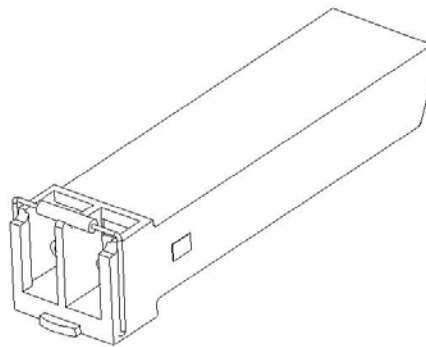

Figure 13 Gigabit SFP Optical Module
- Figure 13 shows an example of a Gigabit SFP optical module;